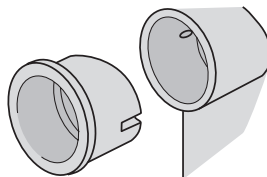

Fig.31e Blanking plug
**Step 5** – (If only one waste socket connection required) Solvent-weld blanking plug into disused socket (Fig.31e)